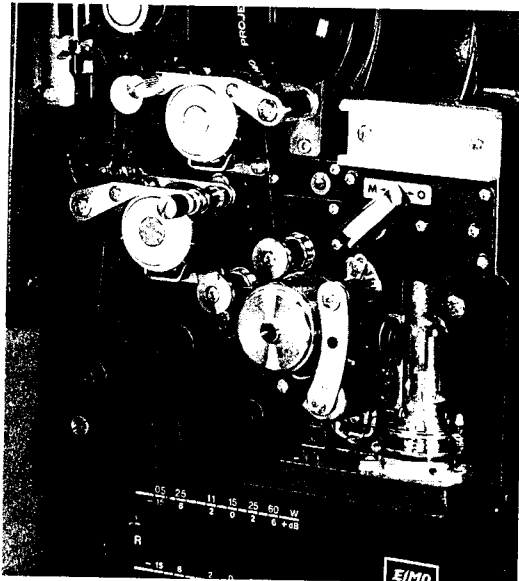

Fig. 20
- (3) Whenever replacing the exciter lamp with new one, attempt to play back a sound by running an optical sound film. This projector features a specifically designed sound reproduction system. In order to let the system to make a maximum performance, adjust the exciter lamp position precisely in the following procedure.
- (a) Load the projector with the supplied test film for exciter lamp position adjustment as shown in Fig. 20.